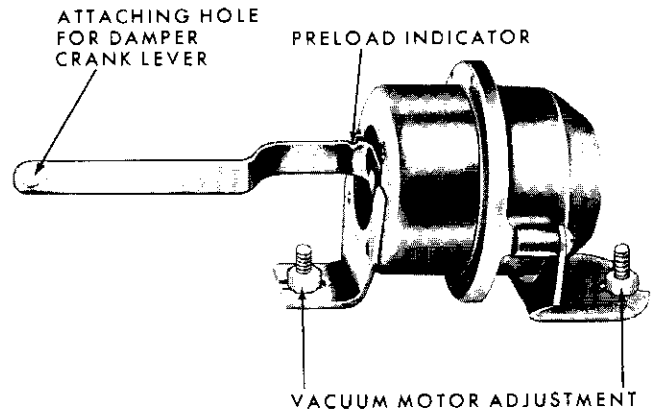

Fig. 4-12—Vacuum Motor Bracket Adjustment
1. Loosen the two vacuum motor attaching screws or nuts. (See Figure 4-12.)